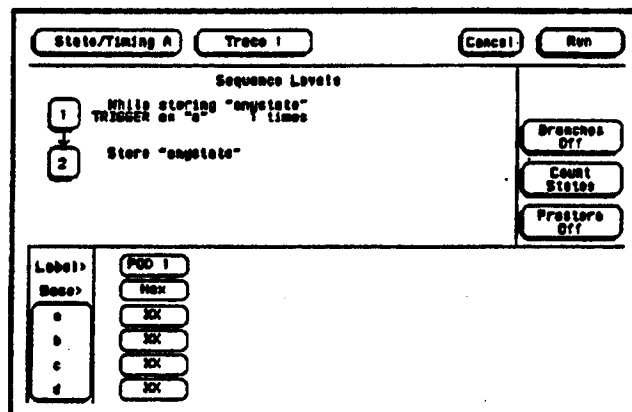

Figure 3-8. Trace Screen
5. Configure the Trace screen without sequencing levels and set Count to States as shown in figure 3-8. Refer to steps a and b if unfamiliar with the menus.